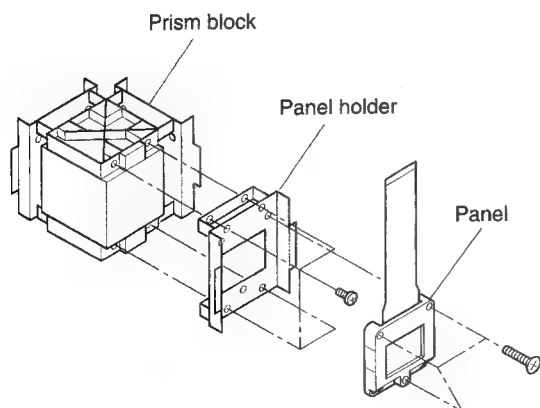

Fig. 1-3-15 Prism block exploded views
2. Remove the panel and the panel holder from the prism block. (Refer to Fig. 1-3-15.)